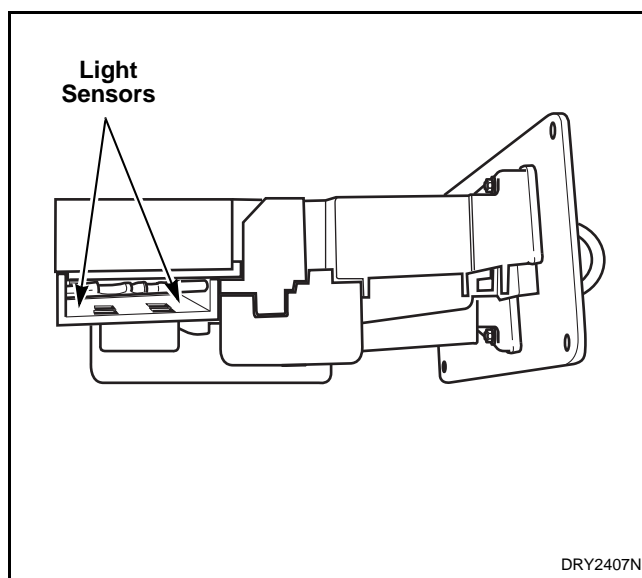

Figure 12
f. Clean light sensors with a soft brush or air spray duster. Refer to *Figure 12*.